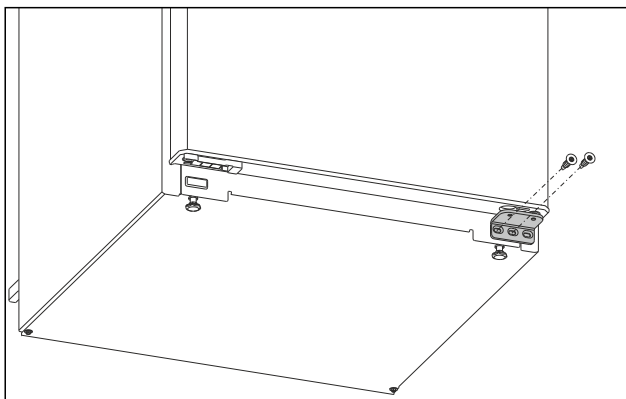

Fig. 4
- ▶ Unscrew the middle screw on the lower swap bearing block using a Torx 20 screwdriver. Fig. 4 (1)
- ▶ Unscrew the inner screw on the lower swap bearing block using a Torx 20 screwdriver. Fig. 4 (2)